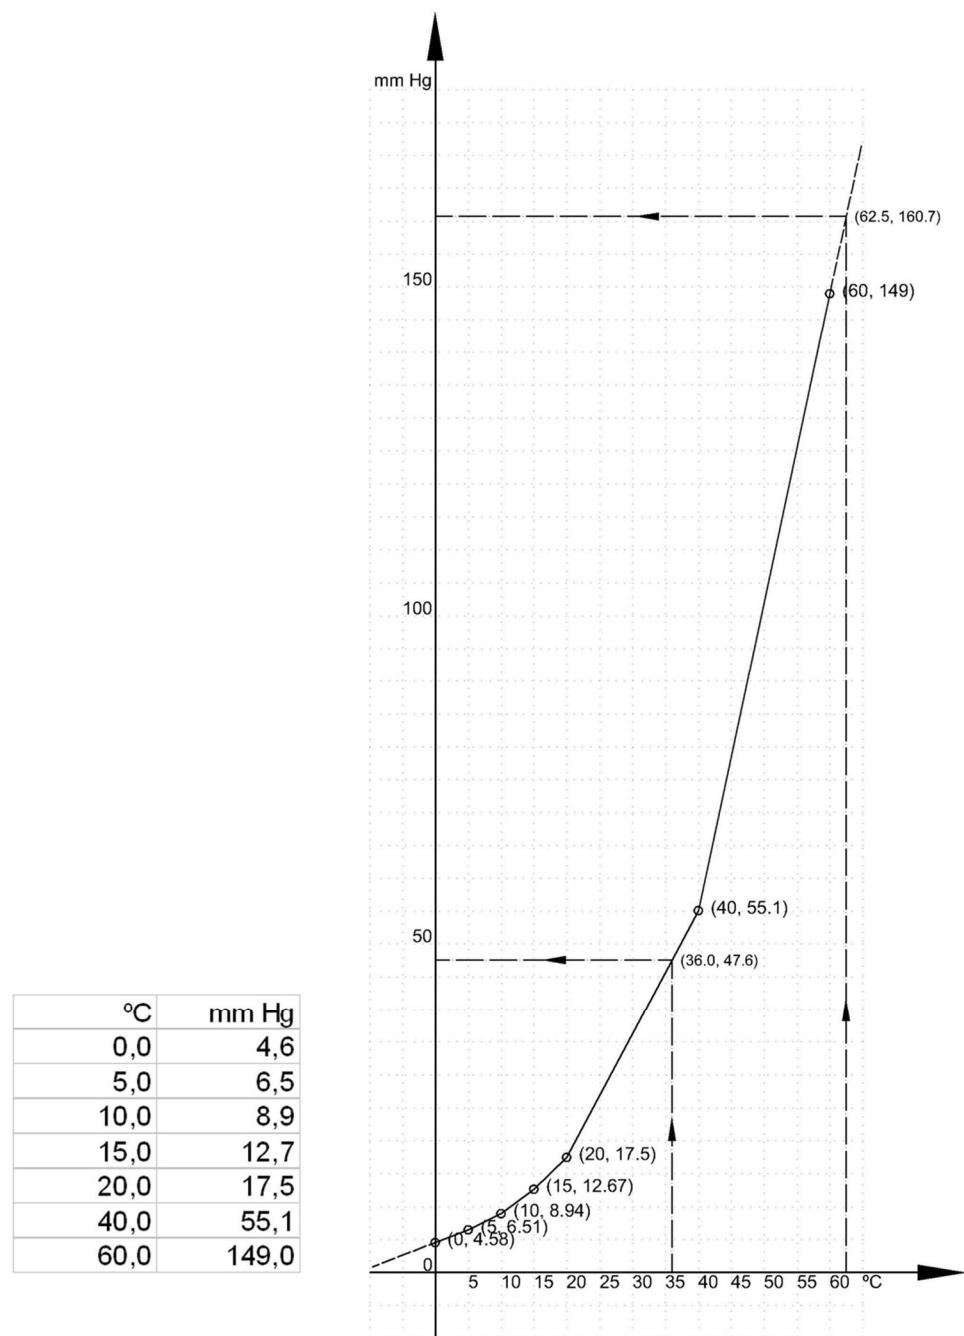

Figure 27. Lineal interpolation example. *Water steam pressure* against temperature.
4. A lineal interpolation algorithm is to be implemented (see figure 27 below). Basically the method is (do not assume that the *interpolation method* –algorithm- will fatally become itself into a *class method*: it may or may not do so):
2. Should the point fall inside the table (its abscissa is equal to or greater than that of the first point and equal to or less than that of the last), the output will be calculated as the ordinate of the point on the line passing through the points whose abscissa are immediately before and after the passed -abscissa-. A small tongue twister that is easily understood by taking a look at figure 27.
A completely different issue is that of the eventual classes *point* and *line*: at the end of the day we are going to calculate *points* from *points* by *linear* interpolation (Fig. 27).